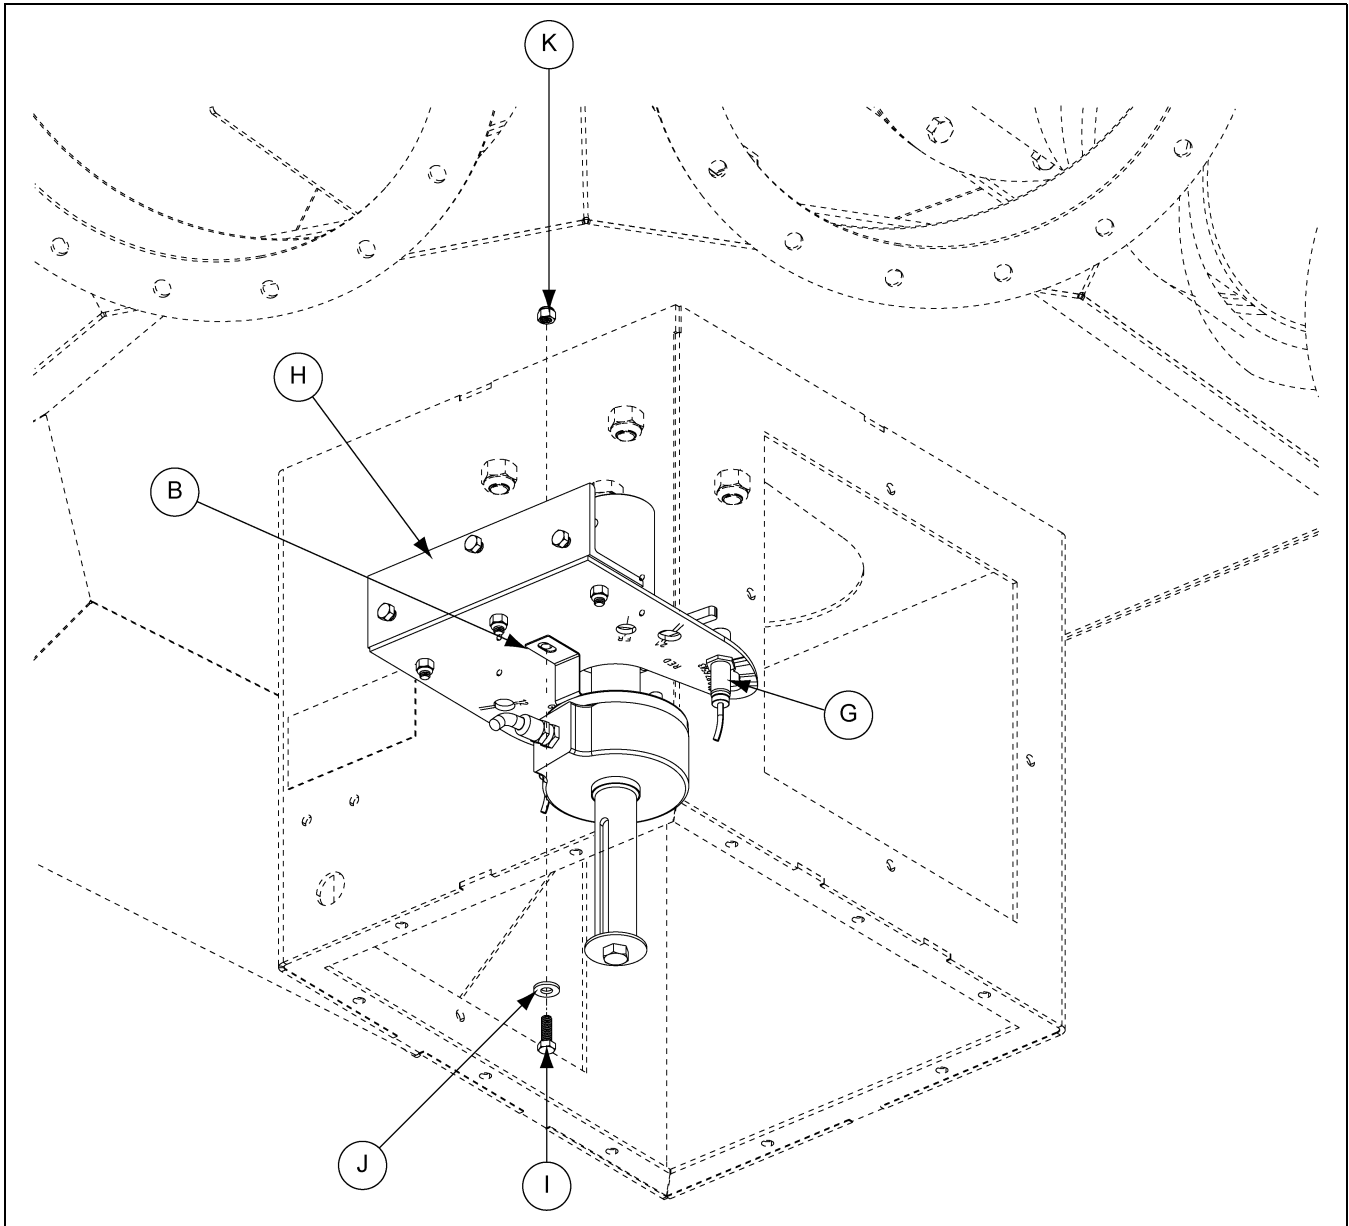

Figure 6I Connector Box Install, Sensor Connectors to Encoder Connection
Install the encoder mounting bracket (B) to the proximity sensor bracket (H) using the 1/4"-20 x 3/4" HHCS bolt (I), 1/4" washer (J) and 1/4"-20 nylock nut (K) as shown in Figure 6I on Page 50.